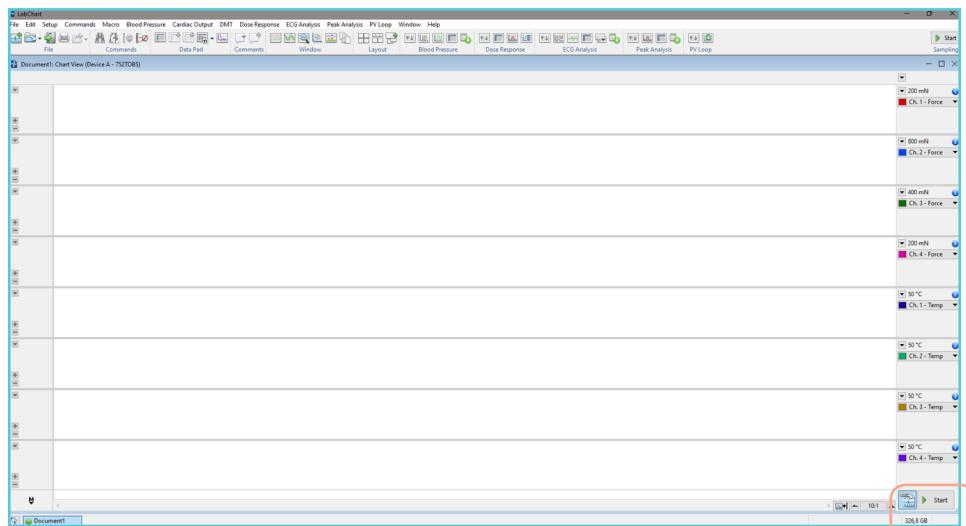

Figure 83: Labchart showing the force and temperature of the four 750TOBS chambers. Press start to start the trace recordings (red box).
9. Labchart will now show the force of the four chambers in channel 1-4 and also the temperature in channel 5-8 (figure 83).
10. The Labchart data acquisition system is now ready for recording the force and temperature from each of the four channels by pressing the Start button in Labchart (figure 83, 84).